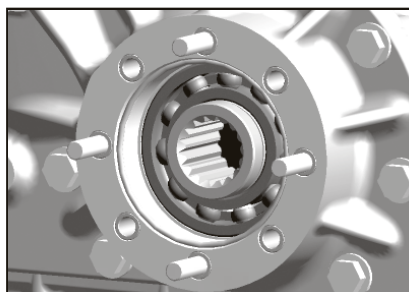

Fig. 4
- b. Install studs as shown in **Fig. 4**.